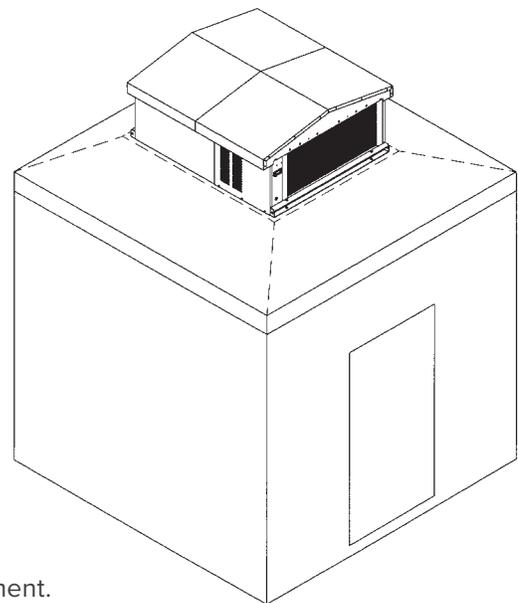

Figure 4. Weather hood installed after electrical service connection.
- 12. Reinstall the protective weather hood. (See Figure 4, page 7)